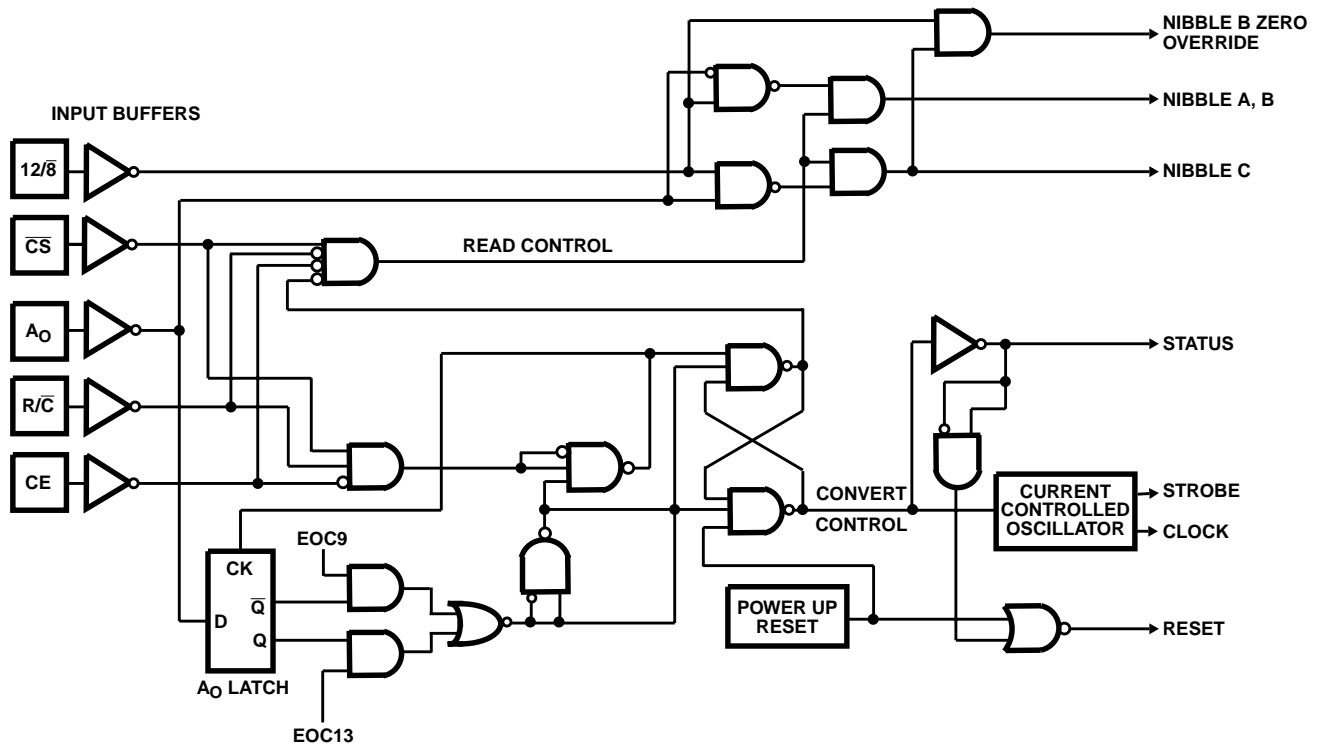

FIGURE 7. HI-774 CONTROL LOGIC
The HI-X74(A) includes logic for direct interface to most microprocessor systems. The processor may take full control of each conversion, or the converter may operate in the "stand-alone" mode, controlled only by the R/C input. Full control consists of selecting an 8-bit or 12-bit conversion cycle, initiating the conversion, and reading the output data when ready—choosing either 12 bits at once or 8 followed by 4, in a left-justified format. The five control inputs are all TTL/CMOS-compatible: (12/8, CS, AO, R/C and CE). Table 1 illustrates the use of these inputs in controlling the converter's operations. Also, a simplified schematic of the internal control logic is shown in Figure 7.